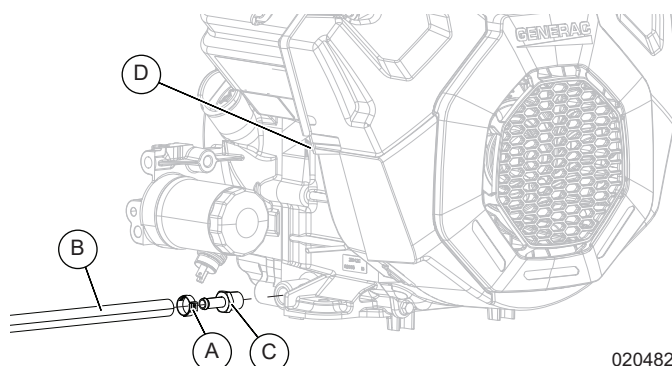

Figure 12-18. Install Oil Drain Assembly
1. See Figure 12-18. Verify 3/8 – 18 NPT oil drain barbed fitting (A) has lock patch on threads.